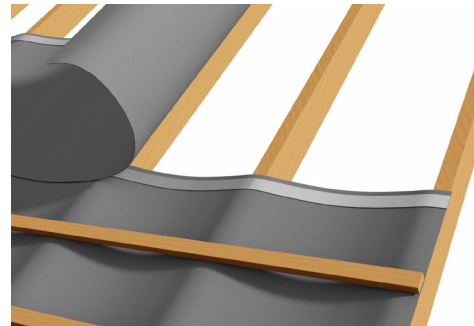
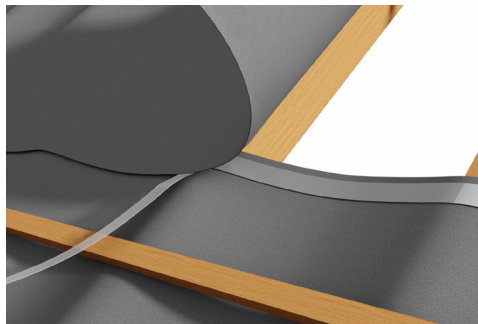

fig 3: Horizontal lap - Taped
fig 5: Horizontal lap with peelback tape
4. Continue laying each course of Danelaw LR120T working up the roof pitch in the same way. Ensure that the surface of the underlay to be adhered using the integral tape is clean, dry and free from dust. Peel back the release paper on of the adhesive strip on the underlay and press the two underlay layers together to form an effective seal (fig. 5). Continue working along the roof in this way to seal the full length of the horizontal overlap (fig. 3). Use the 150mm overlap line marked on the membrane to ensure the correct positioning.